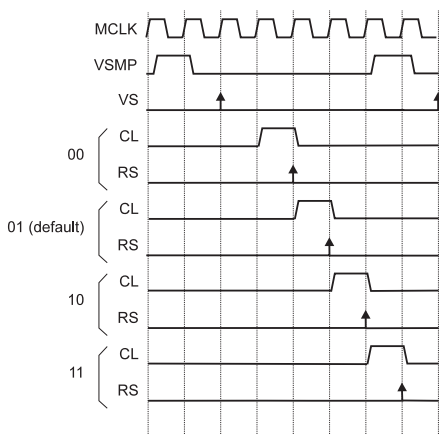
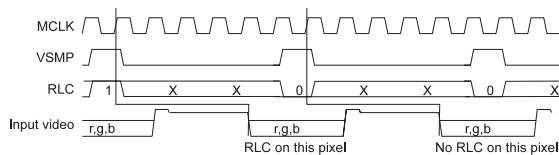

Figure 4: Reset Sample and Clamp Timing
Figure 6: RLC Timing
The position of the clamp relative to the video sample is programmable by CDSREF1-0 (see Table 7). By default, the reset sample occurs on the fourth MCLK rising edge after VSMP. The relative timing between the reset sample (RS) and CL) and video sample can be altered as shown in Figure 4.
A reset level clamp is activated if the RLC pin is high on an MCLK rising edge (Figure 6). By default this initiates an internal clamp pulse three MCLK pulses later (Figure 4: CL). The relationship between CL and RS is fixed. Therefore altering the RS position also alters the CL position (Figure 4). Table 7 shows the three possible voltages to which the reset level can be clamped.